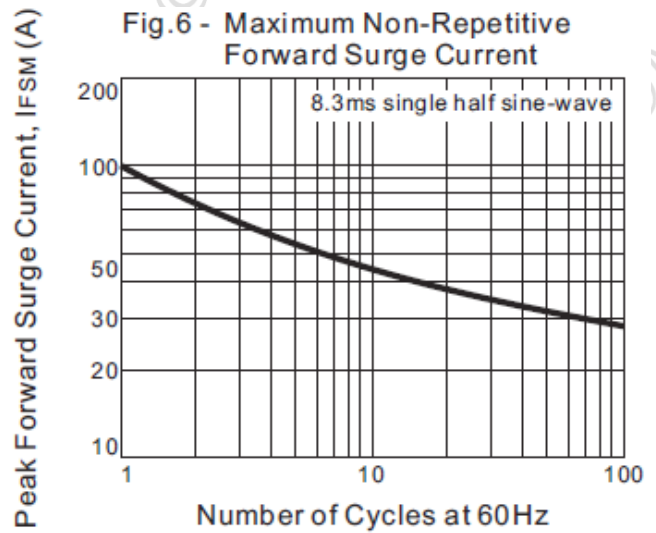
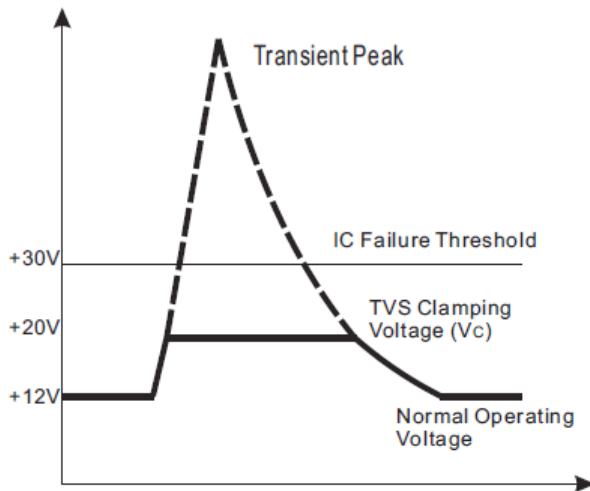

Fig. 7 - Transients of several thousand volts can be clamped to a safe level by the TVS
Fig. 8 - Transient current is diverted to ground thru TVS; the voltage seen by the protected load is limited to the clamping voltage level
6. Transient Voltage Suppressors (TVS) are devices used to protect vulnerable circuits from electrical overstress such as that caused by electrostatic discharge, inductive load switching and induced lightning. Within the TVS, damaging voltage spikes are limited by clamping or avalanche action of a rugged silicon PN junction which reduces the amplitude of the transient to a nondestructive level. See Fig. 7 & Fig. 8